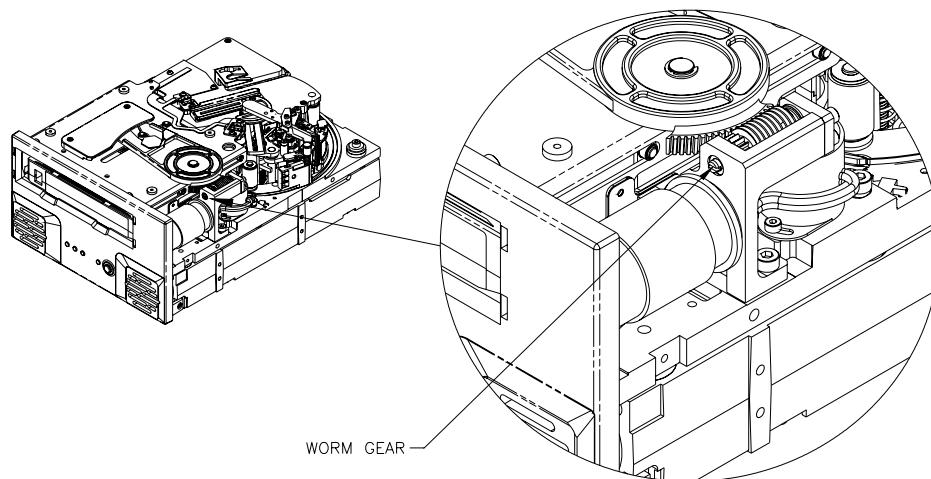

Figure 22. Diagram of Viper 200 showing worm gear
12. Use a flat-blade screwdriver to turn the worm gear counter clockwise (to the left). Figure 22 shows the location of the worm gear. This will gradually raise the cartridge elevator and cause the cartridge to slide partially out of the drive.